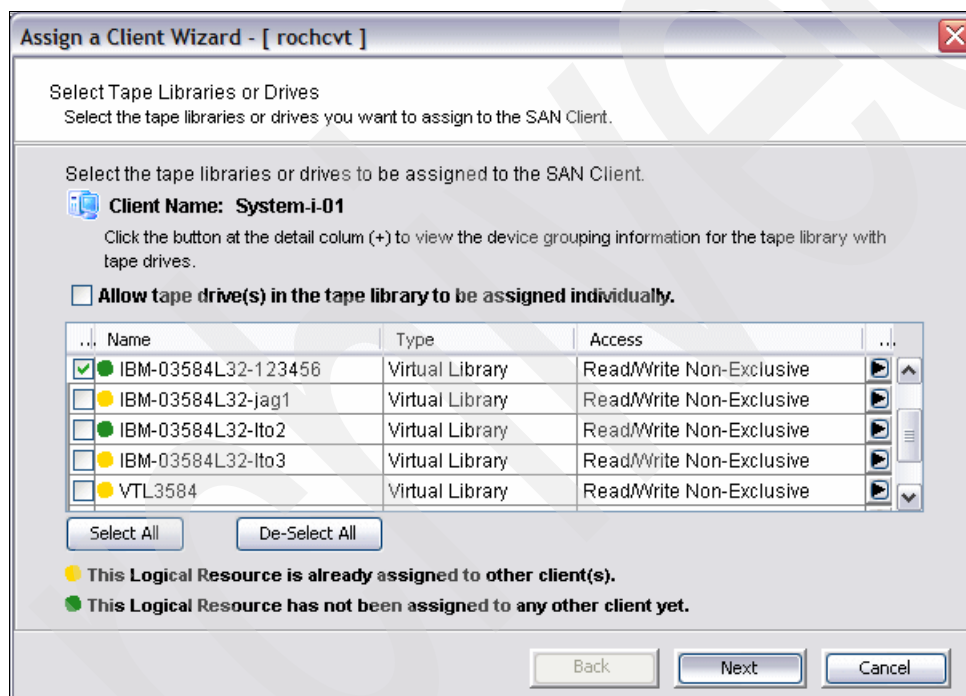

Figure 5-50 Assigning a client to the library and drives
2. In the Select Tape Libraries or Drives panel (Figure 5-50), you can select different access modes to assign libraries and drives. The access types are: